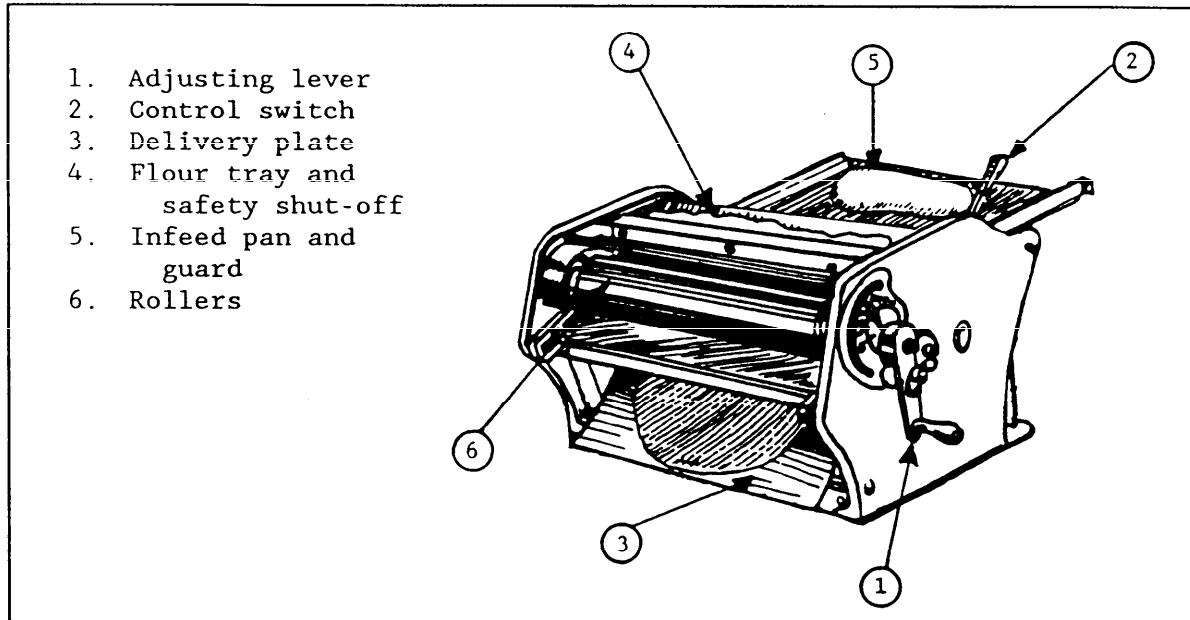

Figure 2
3.3.2 Major Dough Roller Components. Major dough roller components include belt drive, motor, scrapers, and the following components shown in Figure 2.